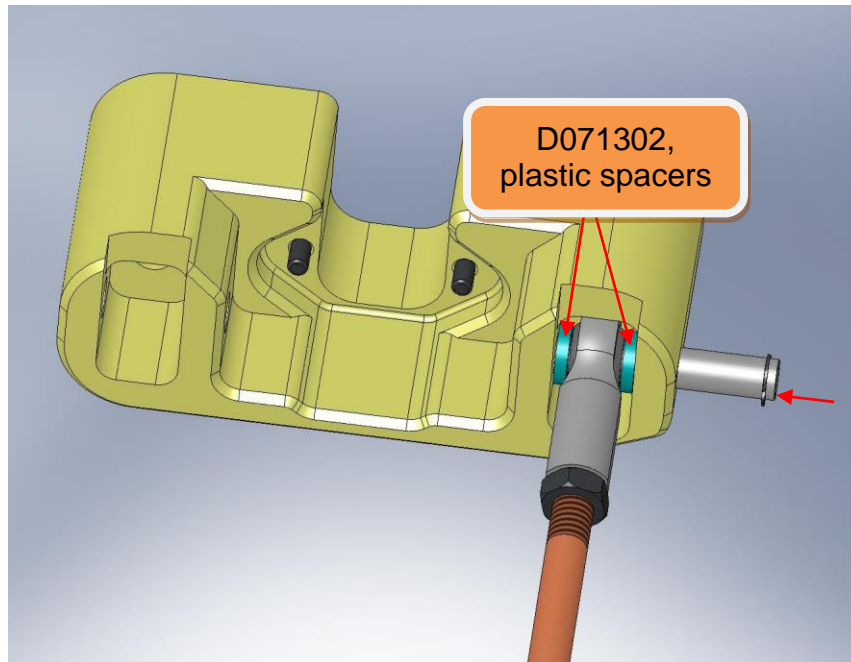

Figure 4.67. Pivot pins are pushed through the Pull-Down Cap, passing through the rod ends and spacers.
- Push each pivot pin through opposite sides of the **Pull-Down Cap**, as shown in Figure 4.67. Each pin should pass through i) a **Spring Pull-Down Rod End Spacer** (D071302), ii) a rod end at the end of a **Pull Rod**, and iii) another **Rod End Spacer**, before pushing back through the **Pull-Down Cap**.